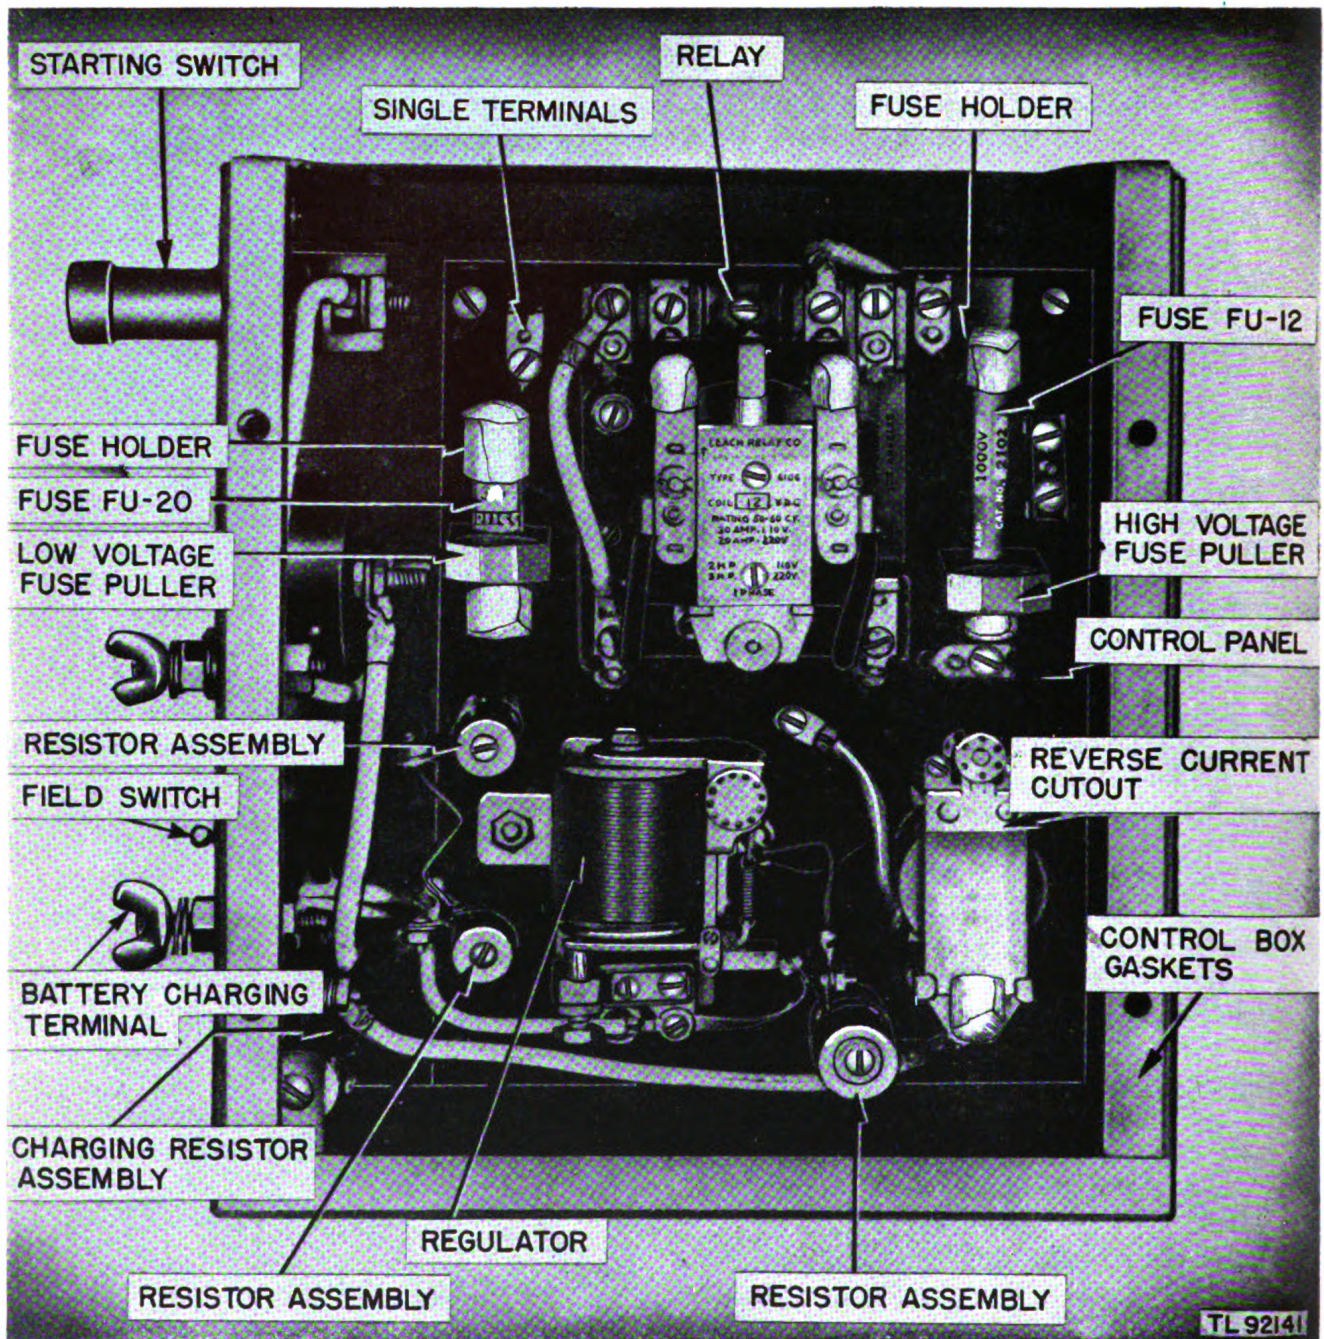

Figure 49. Control box for Power Unit PE-49-D—showing parts masked.
(19) Remove remaining screws holding filter box to control box.
(20) Remove filter box and control box cover to be treated.
(21) Remove lockwashers, holding nipples, from generator to control box.
(22) Remove screws, holding control-box supports to generator frame.
(23) Remove control box to be treated.
(24) Clean all dirt, dust, rust, fungus, oil, grease, etc., from the equipment to be processed.
c. MASKING (fig. 49). (1) Mask with tape the three pairs of contacts on switching relay.
(2) Mask contacts and contact screw on voltage regulator.
(3) Mask pivots on voltage regulator armature.
(4) Mask pair of contacts on reverse-current relay.
(5) Mask connecting lugs on all disconnected leads.
(6) Replace and tighten all disconnected terminal screws and nuts.
(7) Mask fuse clips.